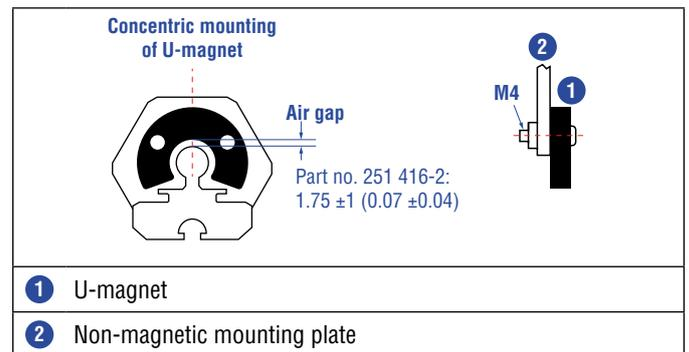
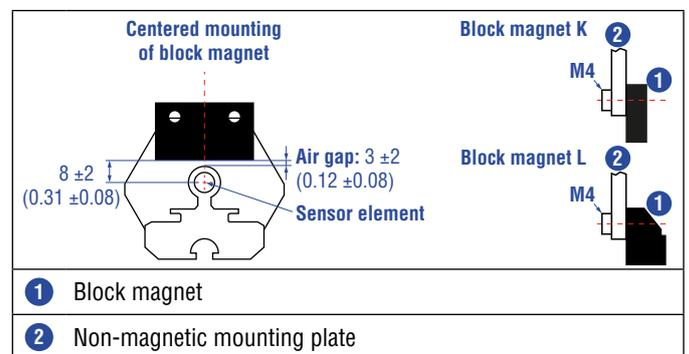

Fig. 70: Mounting of U-magnet (part no. 251 416-2)
Fig. 71: Mounting of block magnet K (part no. 251 298-2) and block magnet L (part no. 403 448)
- Mount block magnets centrically over the sensor rod or the sensor profile. The maximum permissible air gap must not be exceeded (Fig. 70/ Fig. 71).